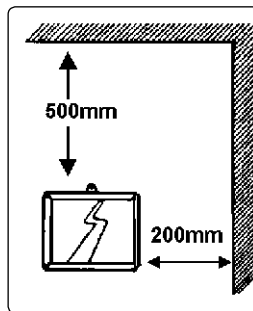

fig.2
- 4.1.3. This LED floodlight develops minimal heat and is not subject to the same mounting restrictions that apply to halogen lamps that become too hot to touch. We do however recommend that the floodlight should not be placed in cramped or restrictive positions and should be fixed at the following minimum distances between the light and any surface/object. See fig.2.